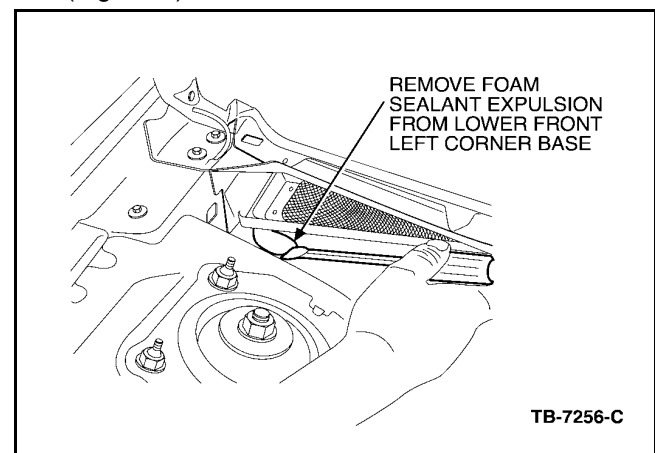

Figure 1 - Article 04-15-3
4. Remove the foam sealant expulsion at lower front outboard corner base of the rain-hat (Figure 1).